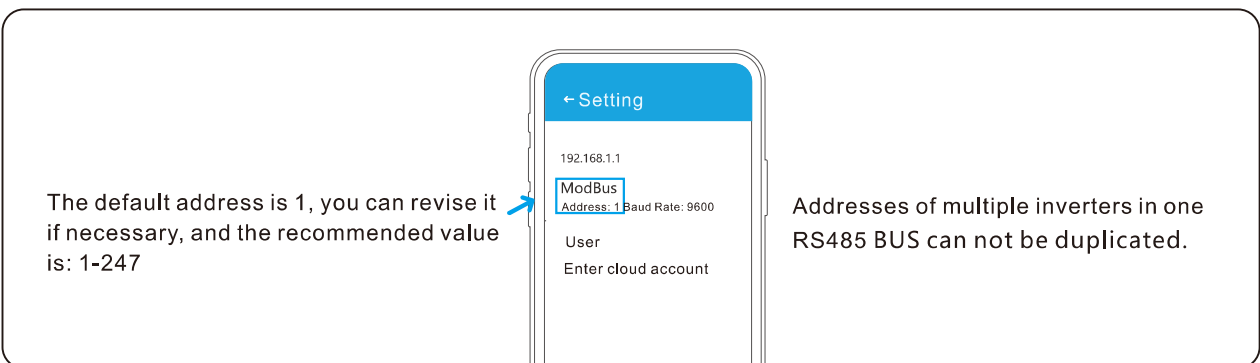

Figure 5.23 Revise the Modbus address and save
**Step 3** Check the Modbus address in Figure 5.23, the default address is 1, click to revise the address and save it, as shown in Figure 5.23.